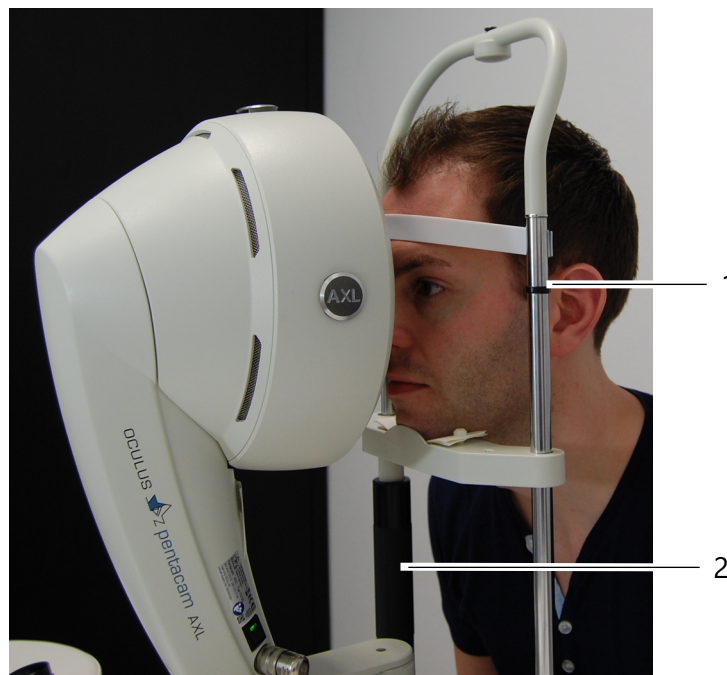

Fig. 7-8: Rough adjustment of the chin and forehead rest
8. Adjust the patient's eye level using the twist grip → fig. 7-8 (page 42), item 2. The patient is positioned correctly when chin and forehead touch the rests and the eyes are level with the marking.